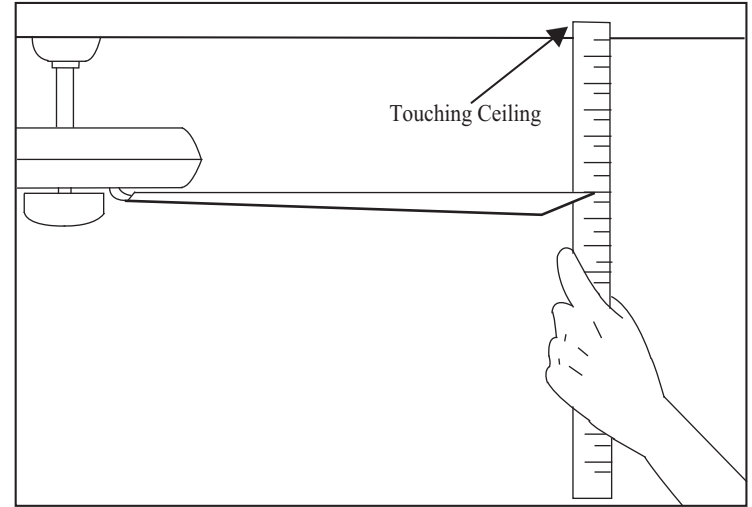

Figure 14
2. Most fan wobble problems are caused when blade levels are unequal. Check this level by selecting a point on the ceiling above the tip of one of the blades. Measure from a point on the center of each blade to the point on the ceiling. Measure this distance as shown in Figure 14. Rotate the fan until the next blade is positioned for measurement. Repeat for each blade. Measurements deviation should be within $1/8"$. Run the fan for 10 Minutes.